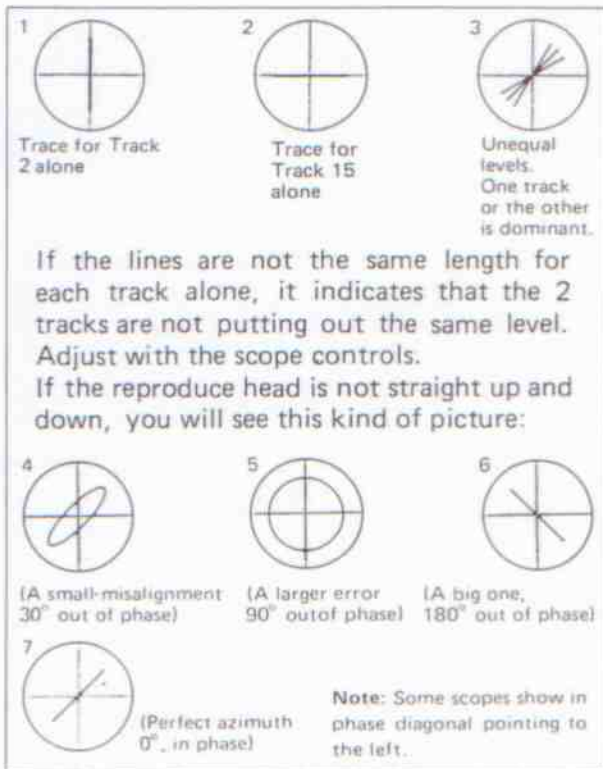

Fig. 7-6-6. Phase Shift
5. Load the reproduce alignment test tape to reproduce. Then, a scope display reading showing phase relations between both channels will be obtained as shown in Fig. 7-6-6.